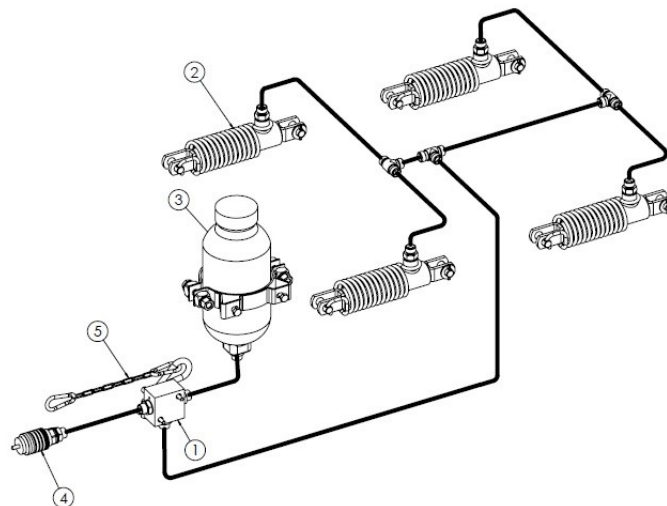

Figure 11 The 1-line hydraulic braking system
- single-line hydraulic braking system (Figure 11)
The spreader can be optionally equipped with a hydraulic single-line braking system - Figure 11. The brake is activated from the driver's seat by pressing the tractor's brake pedal. The spreader brake is supplied and activated directly from the tractor's hydraulic braking system. In the event of an unforeseen disconnection of the spreader from the tractor coupling, the emergency valve (1) uses the chain (5) to apply the brakes of the machine